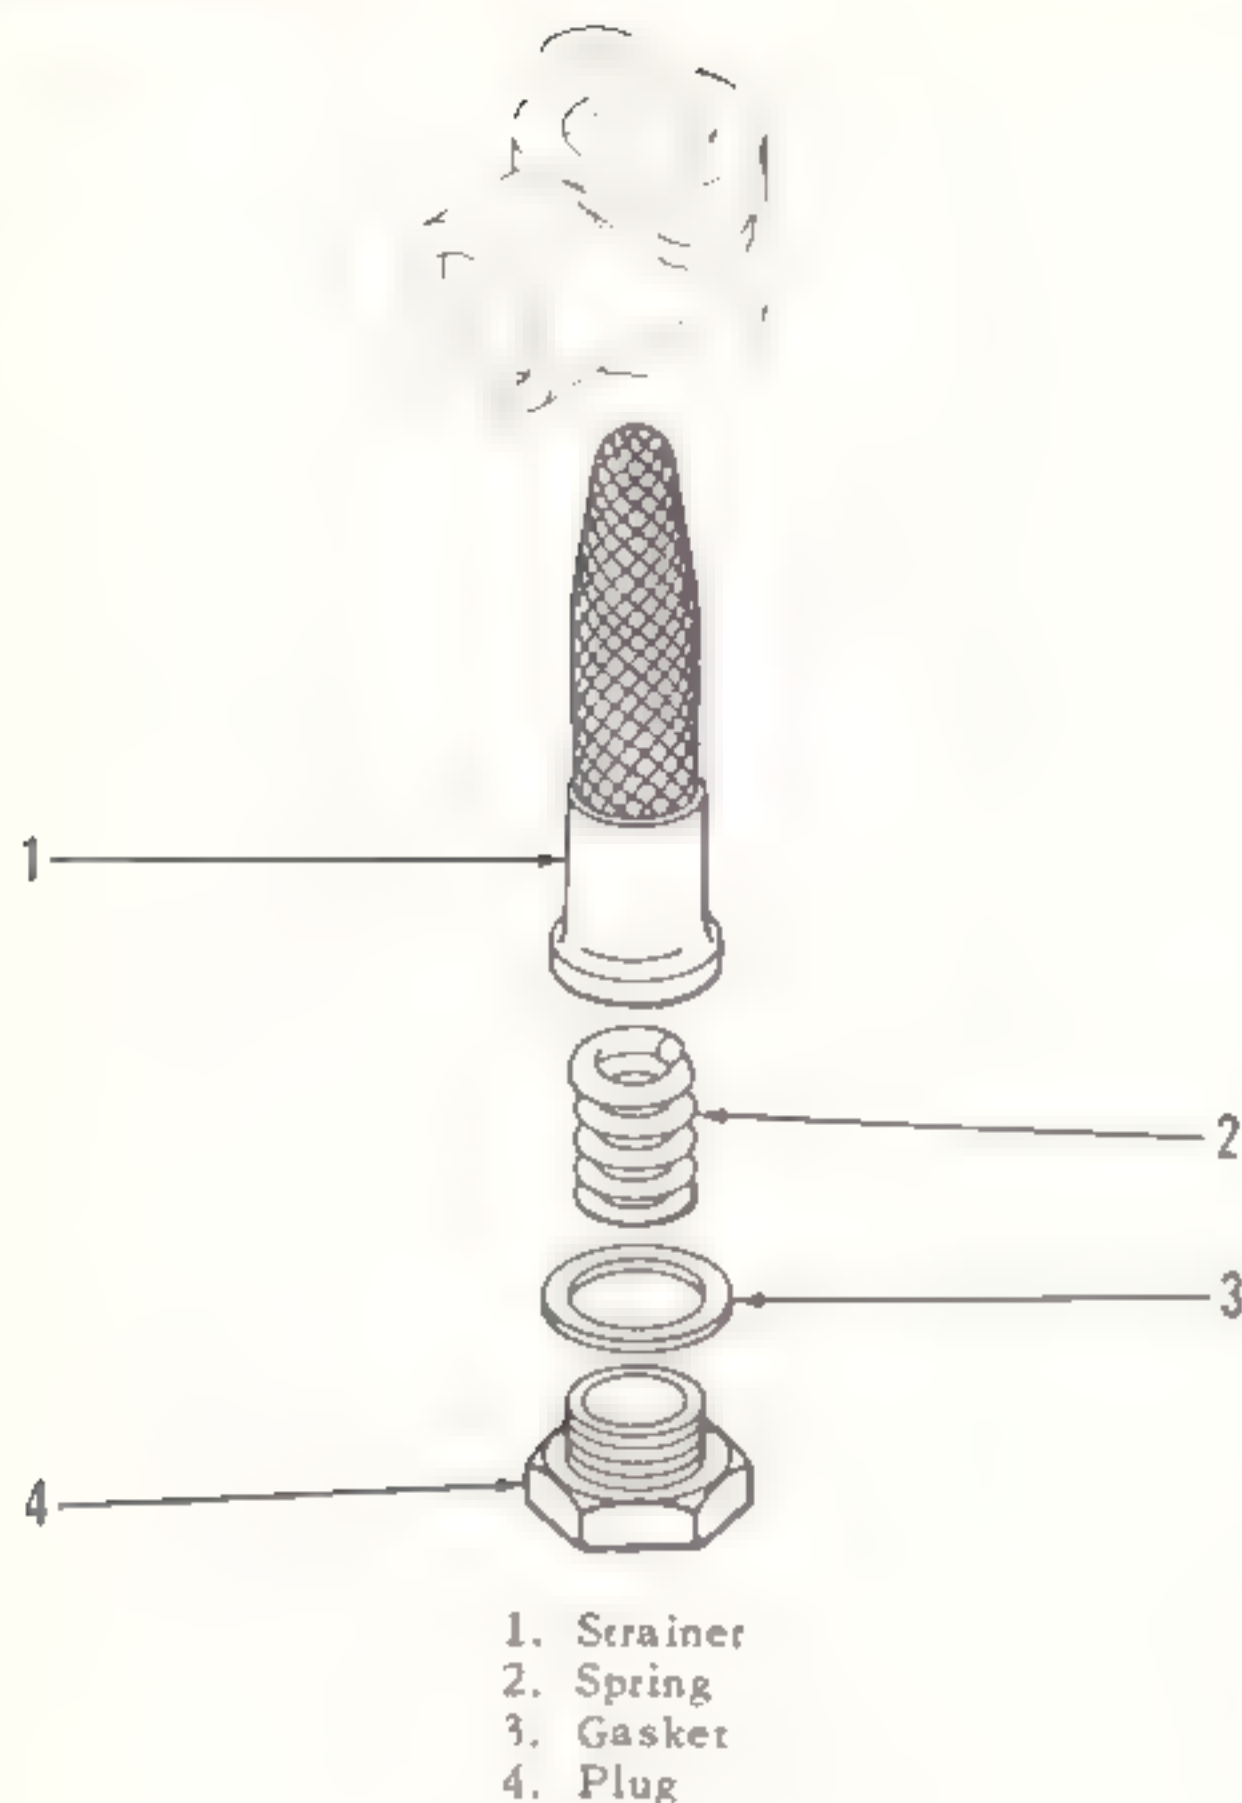

Figure 5-34. Fuel tank strainer (typical)
d. Remove access panel from bottom of helicopter beneath fuel tank sump from which strainer (1, figure 5-34) is to be removed.
e. Remove lock wire from plug (4).
f. Remove plug (4), gasket (3), spring (2), and strainer (1) from housing strainer on fuel tank sump.
c. Insert strainer (1, figure 5-34) into strainer housing on fuel tank sump, and push strainer up until it bottoms against beveled shoulder inside strainer housing.